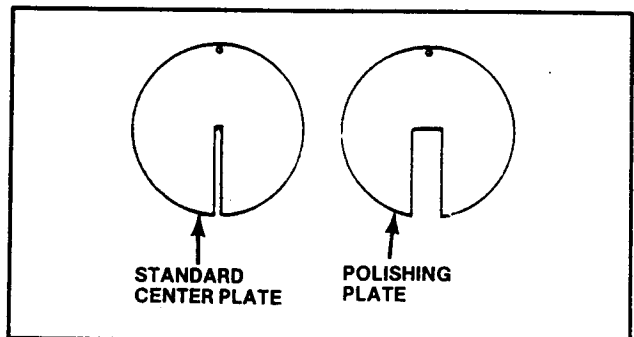

FIG. 48. STANDARD TABLE CENTER PLATE & POLISHING PLATE.
- (3) Install lower adapter to lower saw guide keeper block.
- (4) Lower post to approximately 4 inches (100 mm) above table.
- (5) Mount and track polishing band in same manner as file bands.
- (6) Tension same as a 1/16-inch (1.5 mm) wide carbon saw band.
- (7) Install special table center adapter plate as shown in Fig. 48 on page 24.